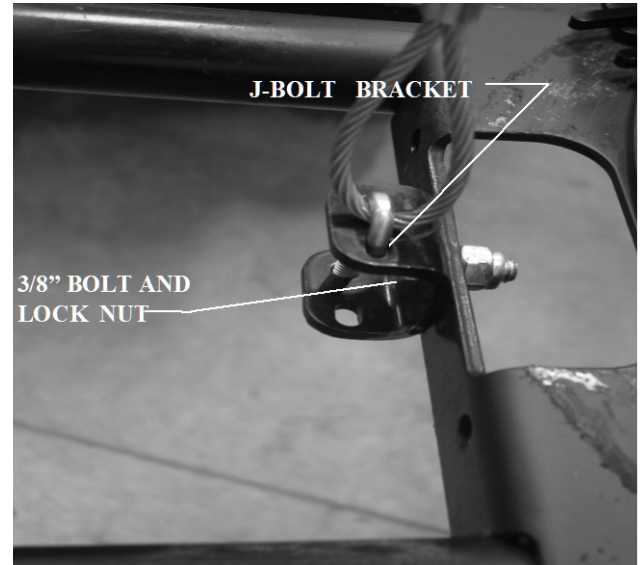

Figure 6
- Attach the J-bolt bracket to the center hole in the plow cross member using a 3/8" dia x 1" long bolt as shown in figure 6. The bracket should be mounted on the ATV side of the crossmember with the side flanges parallel to the ground. Terminate the with a 3/8" dia nylock nut. Tighten the bolt and nut to recommended torque of 20 ft-lb (28 N-m).